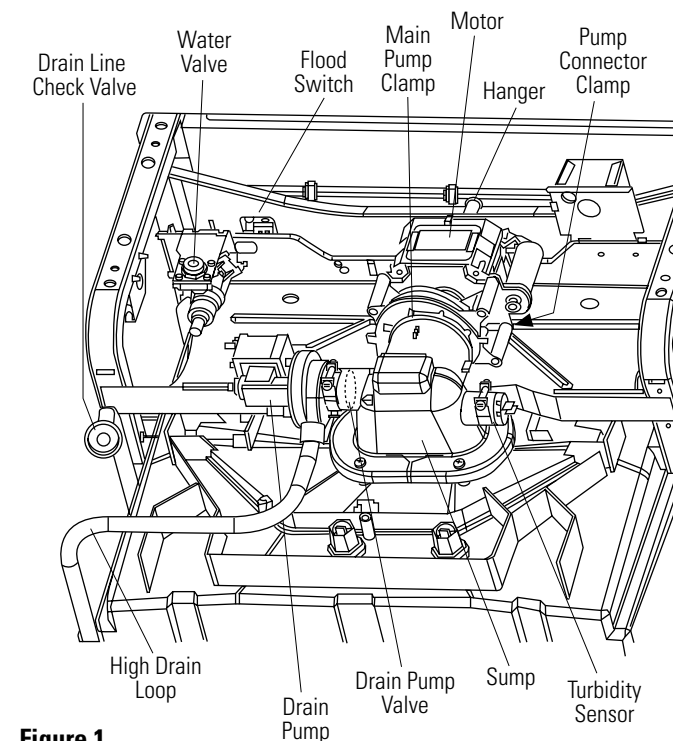
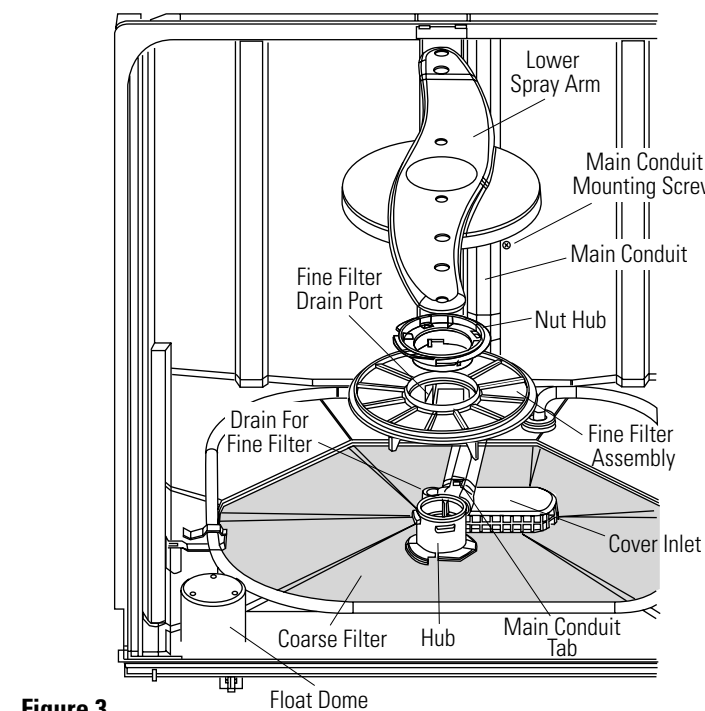

Figure 1
Figure 3
2. Check cover inlet (Figure 3) in the bottom of the tub. Make sure that it is clear of food particles.
5. Remove lower spray arm (Figure 3).
6. Remove main conduit mounting screw (Figure 3).
7. Lift main conduit tab, pull and rotate main conduit out of hub (Figure 3).
8. Remove the cover inlet, check sump and drain outlet (Figure 3). It may be blocked by a toothpick or other object.
9. Check drain pump valve (Figure 1) for correct operation. Water should flow only from the pump to the high drain loop.
10. Drain line check valve (Figure 1) must pass water in the drain line direction only.
2. On inside of dishwasher, remove the cover inlet (Figure 3) and reach down into the sump (Figure 1). Check for blockages such as bone, wire ties, etc. If it contains debris, clean thoroughly. If motor shaft cannot be turned, remove mechanism.
1. Remove cover inlet (Figure 3). With syringe, remove all water from sump (Figure 3).
2. Loosen main pump clamp and pump connector clamp (Figure 1).
3. Remove hanger that holds motor to tub frame (Figure 1).
To Remove Lower Arm and Fine Filter Assembly (Figure 3):